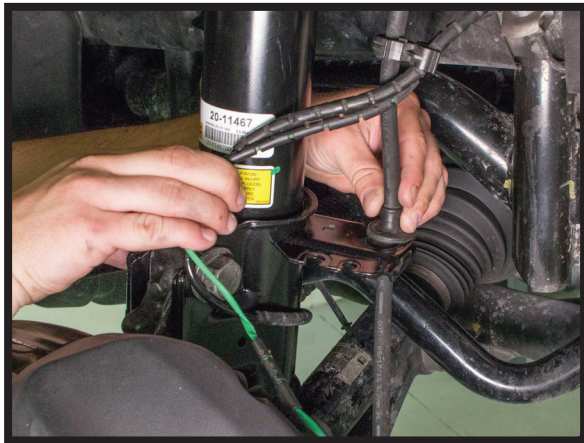

FIGURE 19
4. INSTALL THE BRAKE LINE, THE BRAKE PAD WEAR WIRE (GREEN WIRE), AND THE WHEEL SPEED SENSOR WIRE. (FIGURES 19, 20, 21)